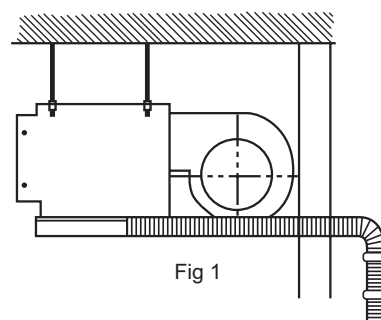

Fig 1
(1) Remove air inlet grill from ornament panel
- ① Push in the bar on inlet grill and lift it up. (Refer to Fig. 1)
4. The connecting pipe between the indoor and outdoor units as well as the drain pipe shall be as short as possible. (See Figure 1)
- The round duct needs to add a transition duct to connect with the air-sending duct of indoor unit, then connect with respective separator. As Fig. 1 shown, all the fan speed of any of the separator's air outlet shall be adjusted approximately the same to meet the requirement for the room air conditioner.